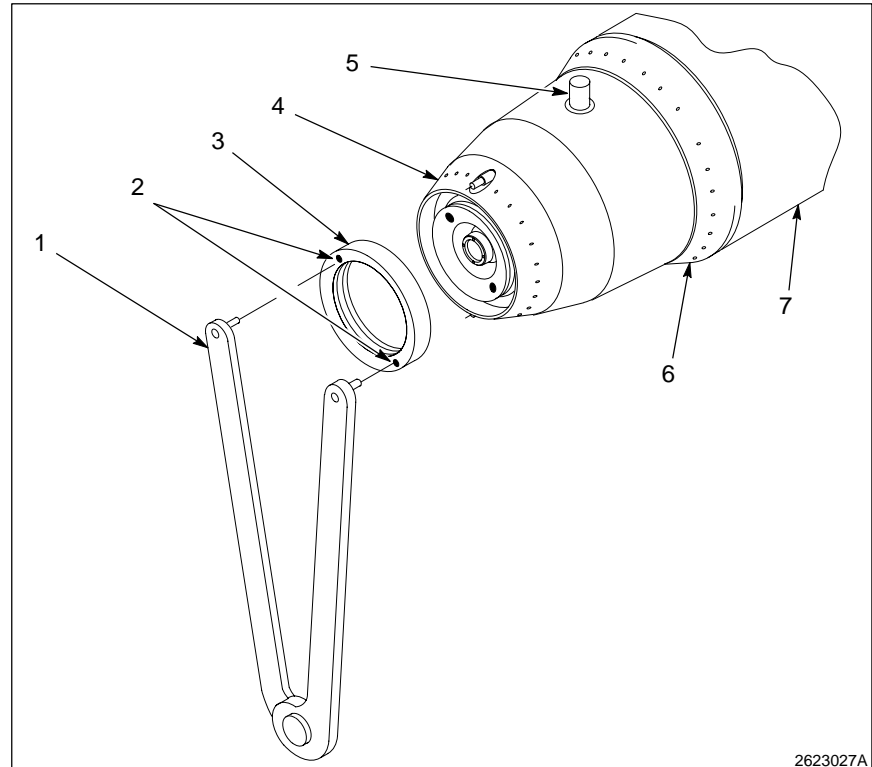

Fig. 7-2 Electrode ring and ring nut removal
2. See Figure 7-2. Remove the electrode ring from the powder bell.
2. See Figure 7-2. Insert the spanner wrench (1) into the alignment holes (2) on the electrode ring nut (3).
3. Turn the spanner wrench (1) counter-clockwise and remove the electrode ring nut (3).